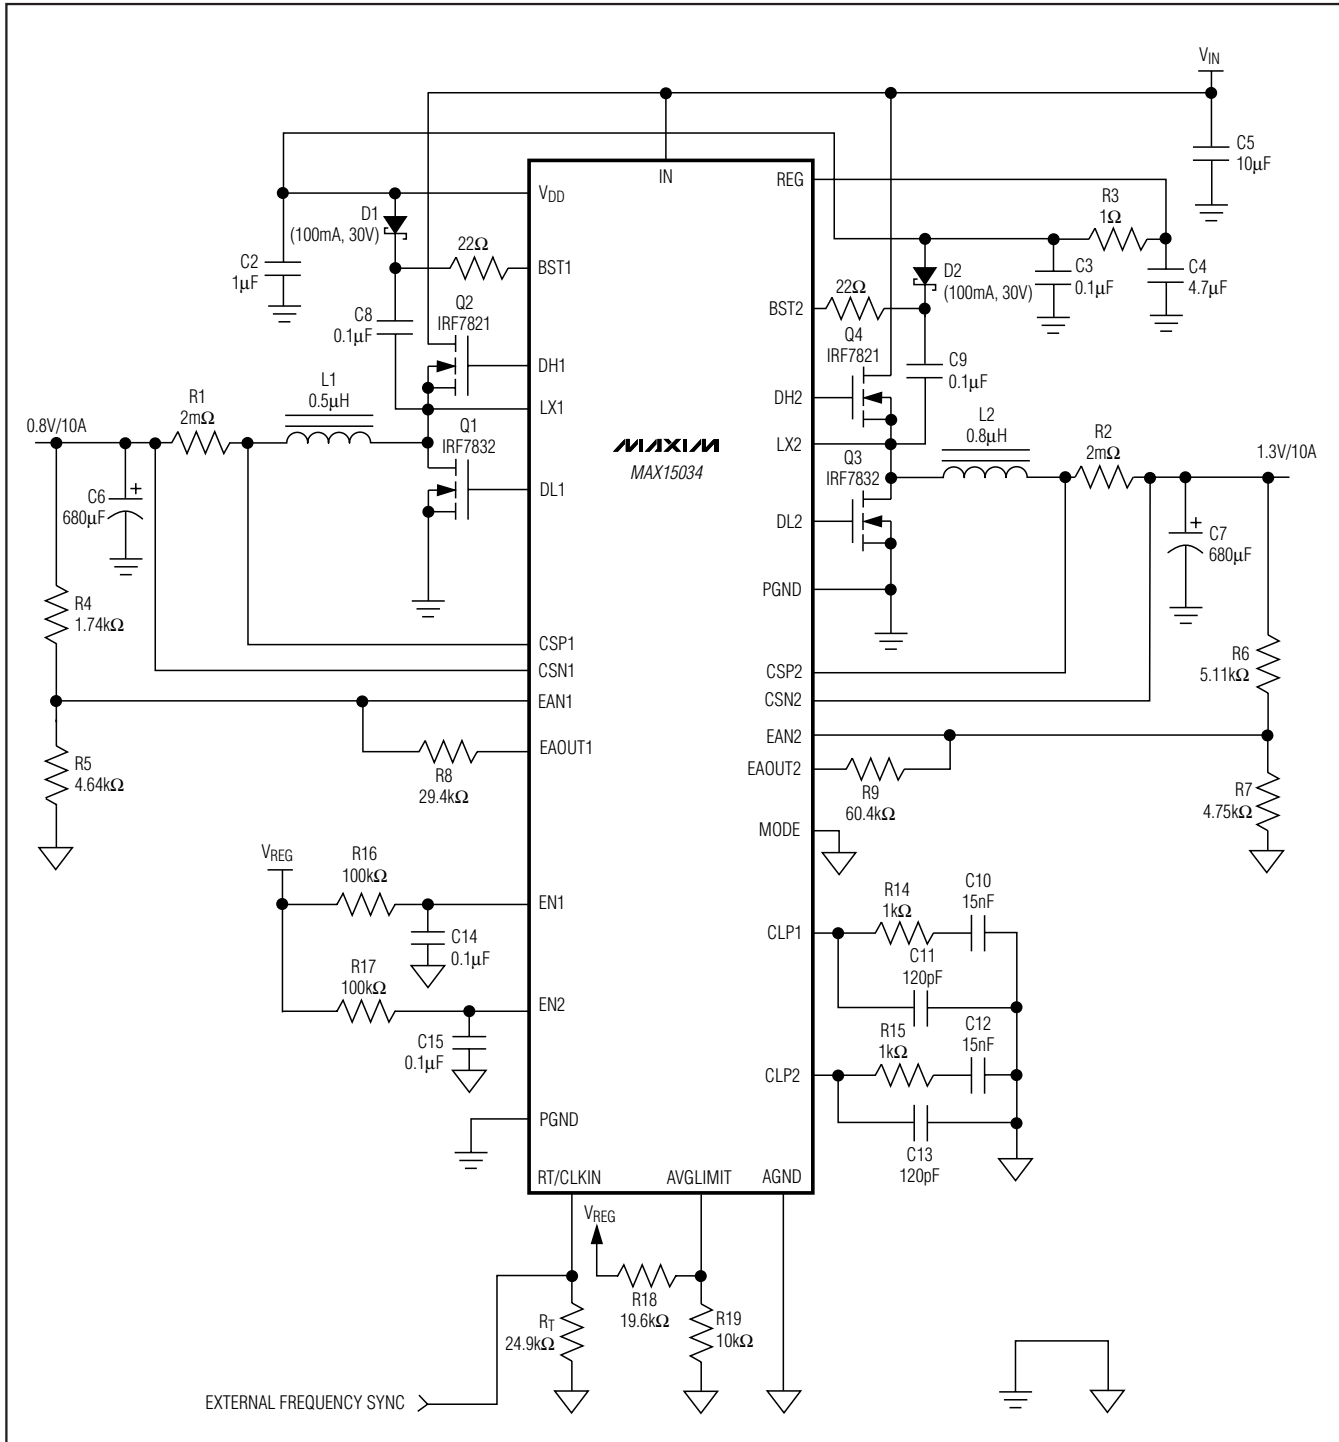

Figure 6. Dual-Output Buck Regulator
where IIN is the quiescent supply current into IN (4mA, typ), QGQ1, QGQ2, QGQ3, QGQ4 are the total gate charges of MOSFETs Q1 through Q4 at VGS = 5V (see Figure 6), and fSW is the switching frequency of each individual phase.
BST1 and BST2 supply the power for the high-side MOSFET drivers for output 1 and output 2, respectively. Connect BST1 and BST2 to VDD through rectifier diodes D1 and D2 (see Figure 6). Connect a 0.1μF ceramic capacitor between BST\_ and LX\_.
Minimize the trace inductance from BST\_ and VDD to the rectifier diodes, D1 and D2, and from BST\_ and LX\_ to the boost capacitors, C8 and C9 (see Figure 6). This is accomplished by using short, wide trace lengths.
The compensation network at the current-error amplifiers (CLP1 and CLP2) provides an inherent soft-start of the output voltage. It includes (R14 and C10) in parallel with C11 at CLP1 and (R15 and C12) in parallel with C13 at CLP2 (see Figure 6). The voltage at the current-error amplifier output limits the maximum current available to charge the output capacitors. The capacitor at CLP\_ in conjunction with the finite output-drive current of the current-error amplifier yields a finite rise time for the output current and thus, the output voltage.
An internal oscillator generates the 180° out-of-phase clock signals required for both PWM modulators. The oscillator also generates the 2Vp-p voltage ramps necessary for the PWM comparators. The oscillator frequency can be set from 200kHz to 2MHz by an external resistor (RT) connected from RT/CLKIN to AGND (see Figure 6). The equation below shows the relationship between RT and the switching frequency:
where  $I_{MAX}$  is the full load current of the regulator.  $V_{OUT}$  is the output voltage of the same regulator and  $C_{IN}$  is C5 in Figure 6. The ESR of the input capacitors wastes power from the input and heats up the capacitor. Reducing the ESR is important to maintain a high overall efficiency and in reducing the heating of the capacitors.
where  $I_{LOAD\_STEP}$  is the step in load current and  $t_{RESPONSE}$  is the response time of the controller. Controller response time depends on the control-loop bandwidth.  $C_{OUT}$  is C6 and C7 in Figure 6.
where  $\Delta V_{OUT}$  is the allowable drop in voltage from no load to full load.  $R_F$  is  $R_8$  and  $R_9$ ,  $R_1$  is  $R_4$  and  $R_6$ ,  $R_2$  is  $R_5$  and  $R_7$  in Figure 6.